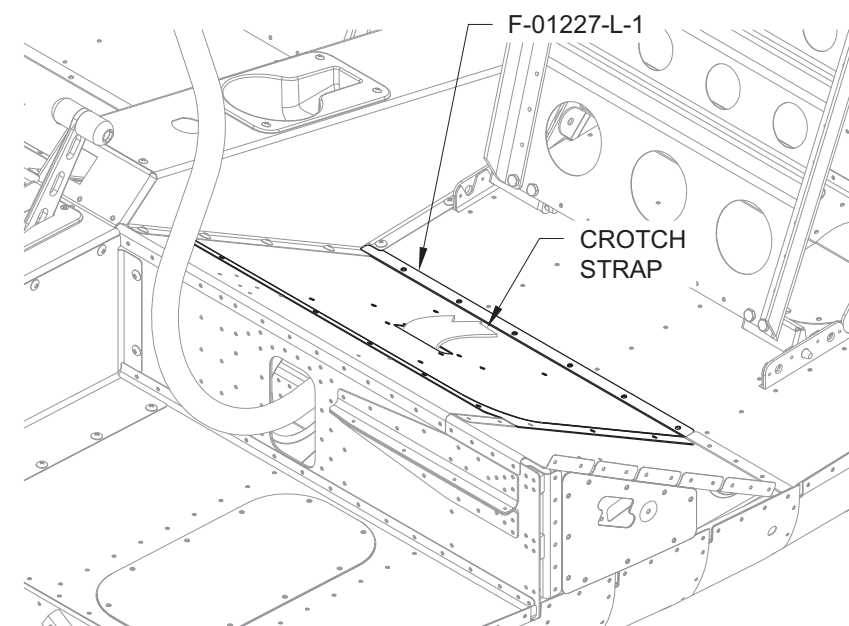

FIGURE 6: REMOVE THE LEFT SEAT RAMP COVER
Step 6: Remove the F-01227-L-1 Seat Ramp Cover. See Figure 6.